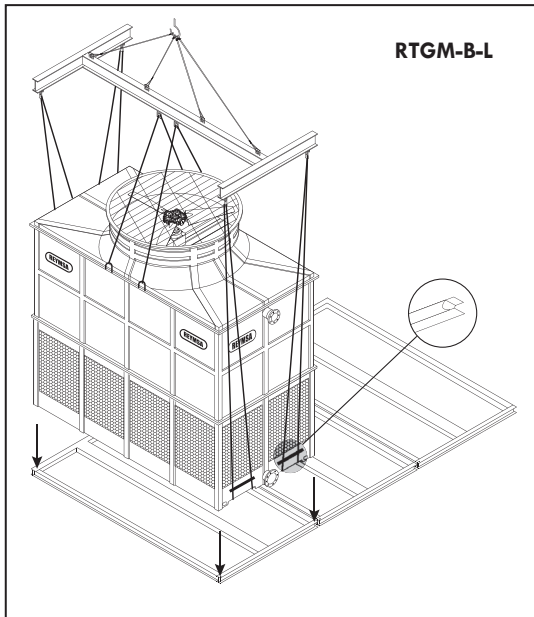
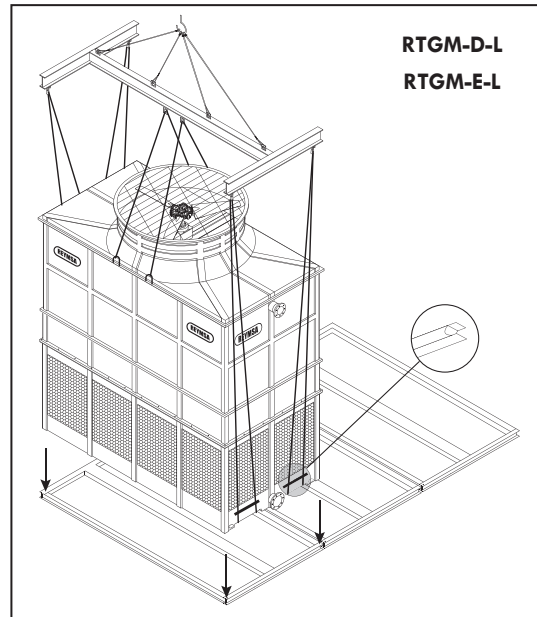
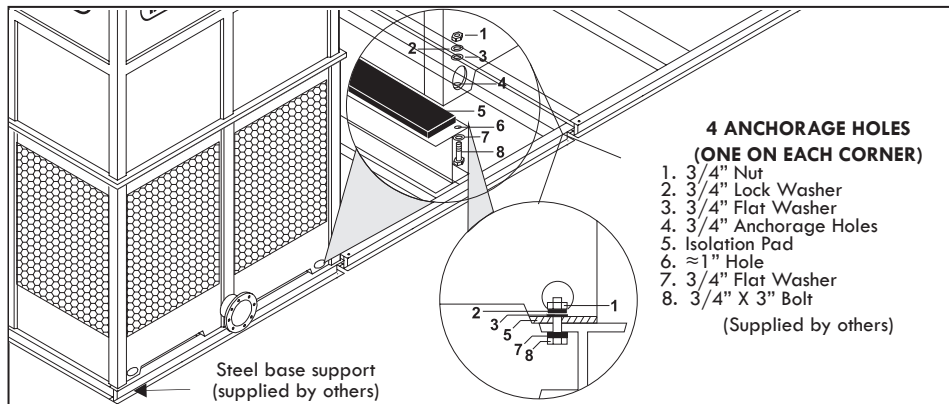

Figure A-82: T1 module lifting and installation (RTGM-B-L)
Figure A-83: T1 module lifting and installation (RTGM-D-L & RTGM-E-L)
Figure A-84: Typical anchorage for a modular tower (RTGM)
- A. Once the basin and body sections have been assembled, lift the Tower using a crane and a spreader bar and place it on top of the isolation pad and the steel base structure (see Figure A-82 and Figure A-83). Secure it with the stainless steel nut and bolts sets (supplied by others) as shown on Figure A-84.